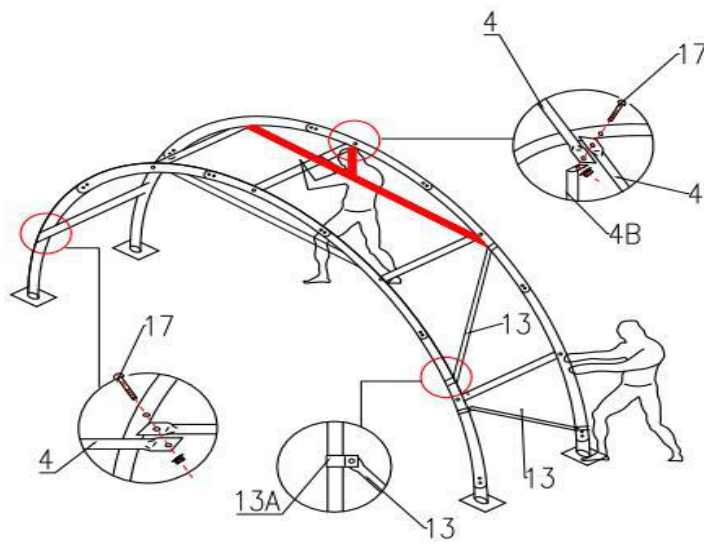

Figure 7
2. Connect the Diagonal Bracing Tube (No.13) with clip (No.13A) between the Lower Bent Tubes as figure 7 and 8.